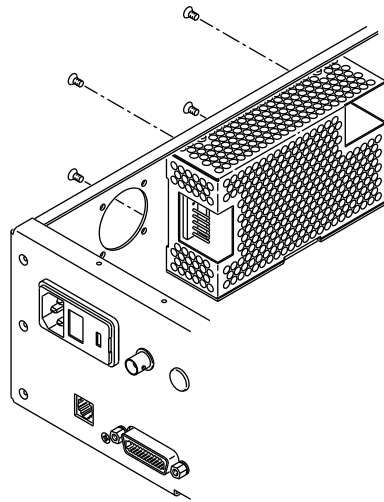

Figure 3-8 Removing the Power Supply
- 5 While holding the power supply in position, use a #2 Phillips screwdriver to remove the four countersunk flathead screws that fasten the power supply to the side wall of the chassis (see Figure 3-8).